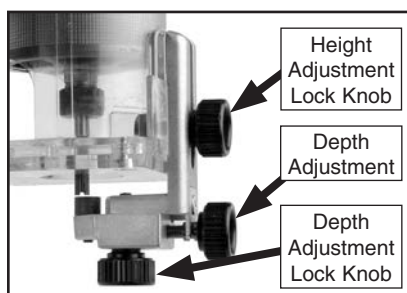

Figure 7. Curved trim guide adjustments.
1. Slide the trim guide onto the base plate as shown in **Figure 7**, set the guide height, and tighten the height adjustment lock knob.